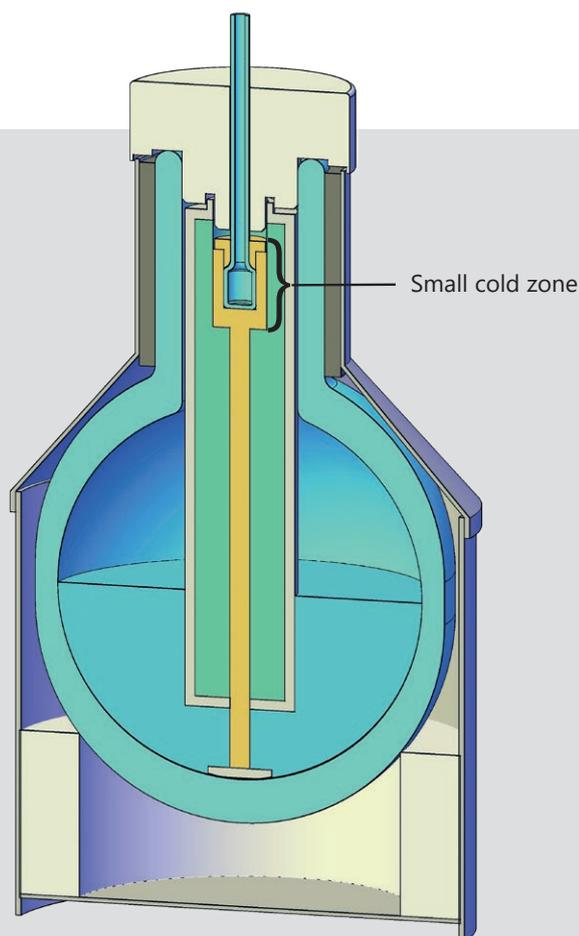

Figure 4 Scheme of the cryoTune with highlighted small cold zone
- it ensures that the sample cell is situated in a short cold zone of few centimeters (see Fig. 4): such a minimization of the cold free-space becomes relevant for measurements of materials with small surface areas;